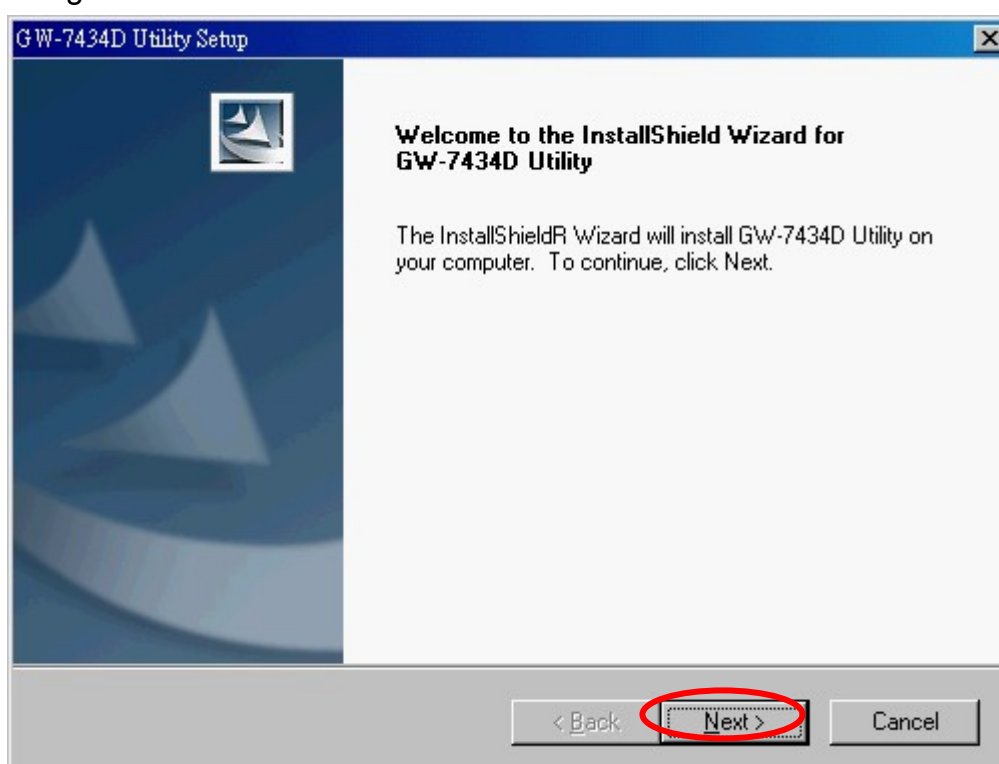

Figure 5-2: Welcome dialog
**Step 3:** A "Welcome" window pops up to prompt user to begin the installation. See figure 5-2.